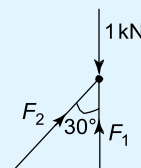

Figure 7.43
- The value of F_1 in Figure 7.43 is:
3. The value of F_2 in Figure 7.43 is: